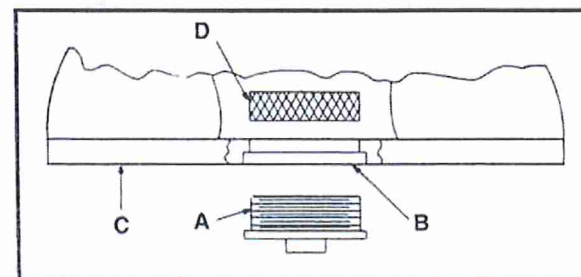
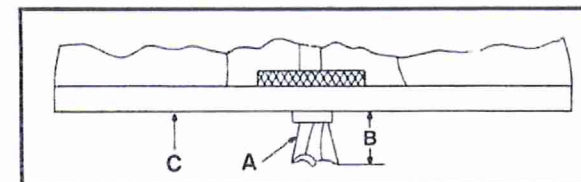

Fig. 8
Fig. 9
2. Insert templet guide (A) Fig. 8, in hole (B), in router sub-base (C).
3. Install templet guide locknut (D) on templet guide and firmly tighten to lock templet guide in sub-base.
4. Insert #43640 dovetail bit (A) Fig. 9, thru templet guide into router collet.
5. Adjust router so dovetail bit projection (B) from bottom of router sub-base (C), is exactly 19/32".
If joint is loose, slightly increase dimension (B) Fig. 9. If joint is tight, slightly decrease dimension (B) Fig. 9. The bit is raised or lowered by adjusting the router motor in the router base with the motor "OFF".
4. Assemble #42054 Templet Guide and Locknut as shown in Fig. 8.
5. Insert #43639 Dovetail Bit through Templet Guide and into collet, Fig. 9. Firmly tighten collet.
6. Adjust router so Dovetail Bit Projection (B) Fig. 9, is 7/16".